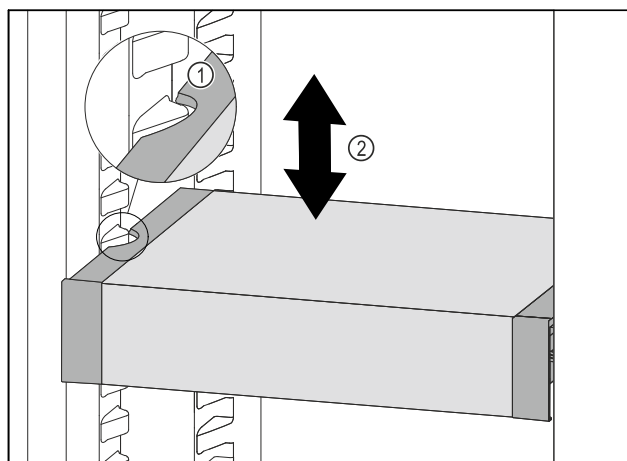

Fig. 174
- Pull VarioSafe forwards until the recesses in the side of the VarioSafe are at the level of the support rib in the refrigerator compartment. Fig. 174 (1)
- Move VarioSafe up or down in the refrigerator compartment until the desired height is reached. Fig. 174 (2)